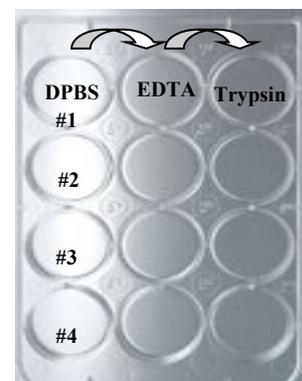

Figure 4. Scheme of tissue trypsinization
4. Prepare a 12-well plate for each set of four tissues. For each tissue, add 5 mL DPBS to one row of wells and 5 mL EDTA/DPBS to a second row of wells (Figure 4).